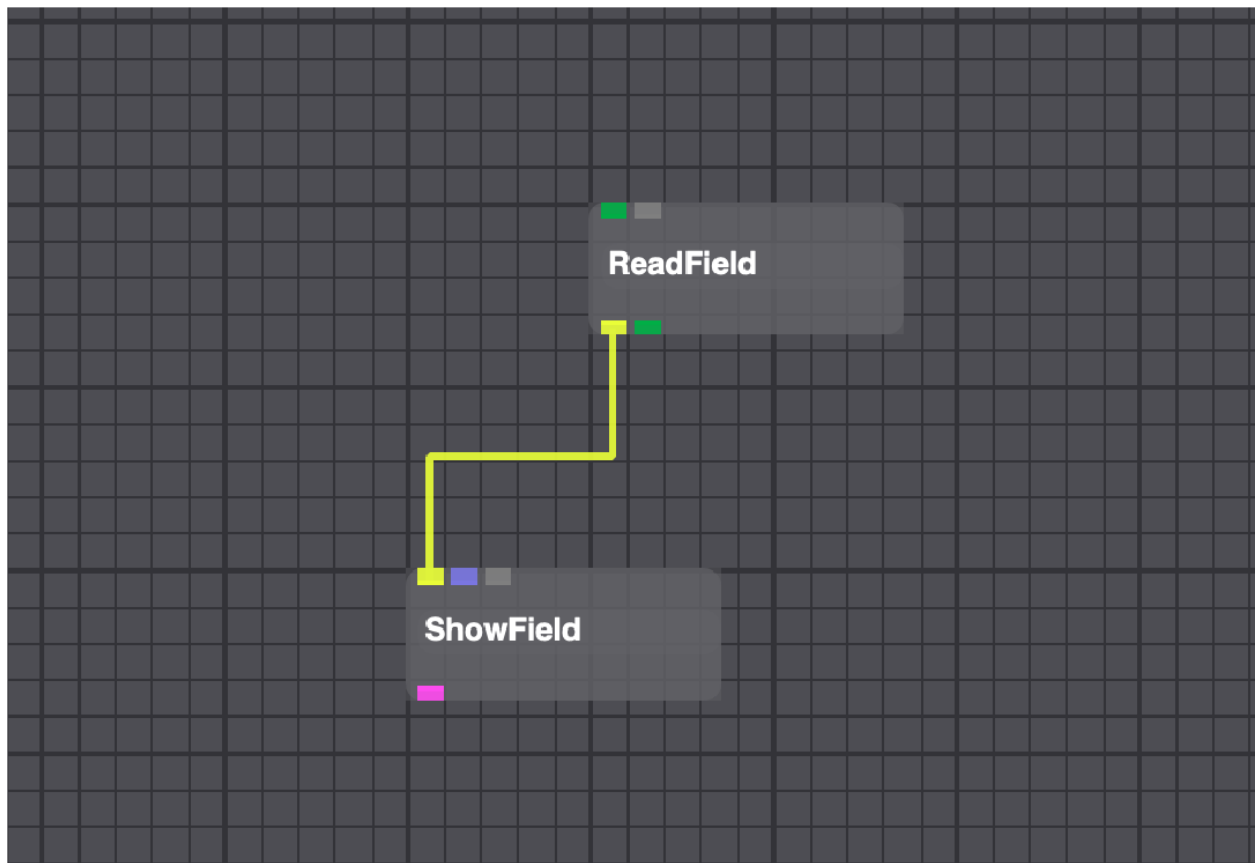

Fig. 3.8: Connected Dataflow Pipe
5. Release the mouse button. A yellow pipe showing a data flow connection between **ReadField** and **ShowField** will appear (Fig. 3.8).